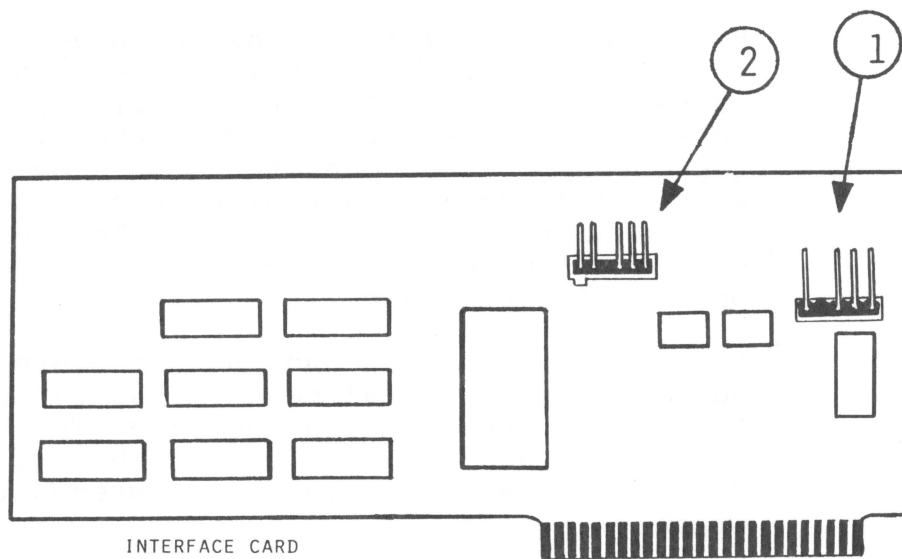

FIGURE 5
2. Locate a set of four pins near the top right edge of the interface card (see Figure 5, #1) and gently slide the slip-on connector onto the pins.
4. Slide the end with the slip-on connector onto the second set of pins (see Figure 5, #2) on the interface card to the left of the first cable you connected.